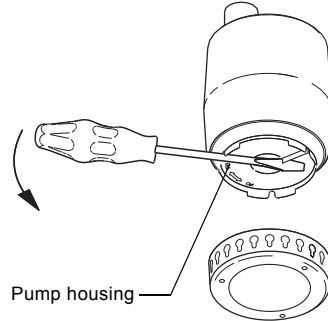

Fig. 11 How to remove the pump housing
4. Pull off the pump housing. See fig. 11.